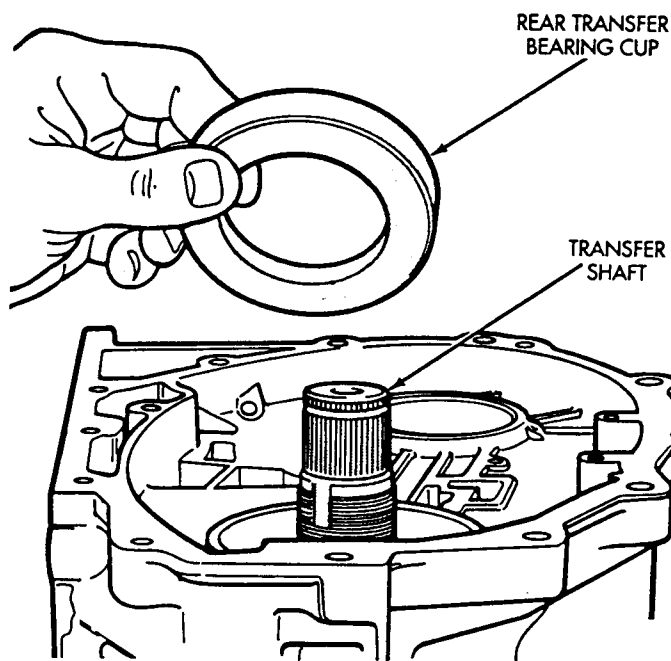

Fig. 30 Rear Transfer Bearing Cup
(34) Install rear transfer shaft cup into case (Fig. 30).